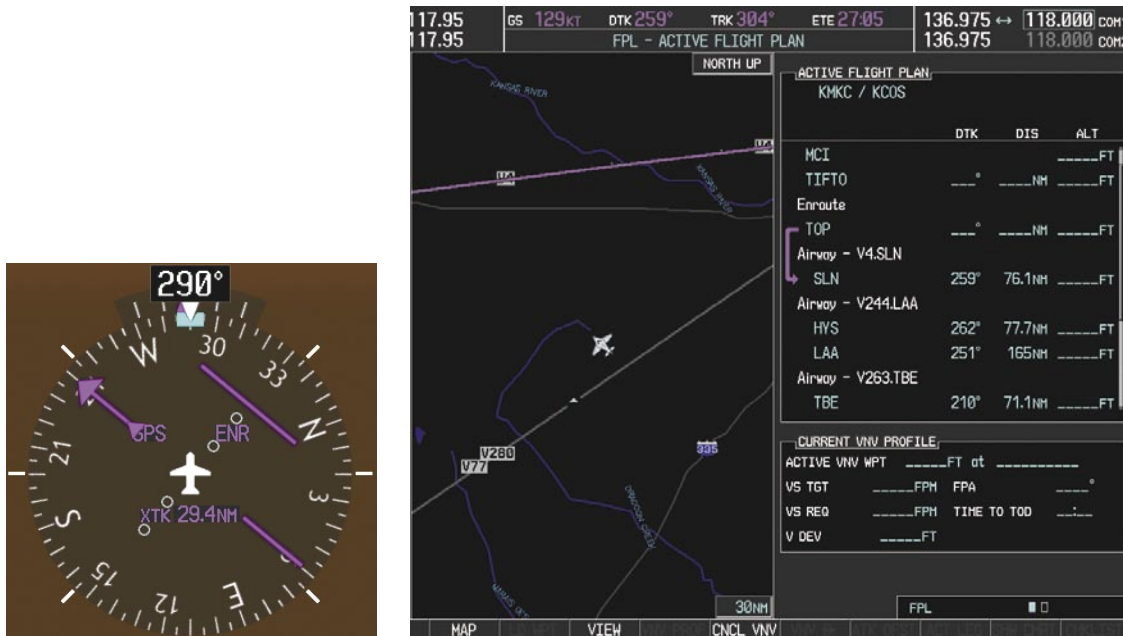

Figure 5-111 V4 Now Active Leg
- d) Verify the displayed leg is the desired leg and press the **ENT** Key. Note in Figure 5-111, the magenta arrow in the flight plan window and magenta line on the map indicating V4 is now the active flight plan leg. Note the phase of flight remained in Terminal (TERM) mode up to this point because a departure leg was active. Since a leg after the departure is now active, the current CDI flight phase is ENR (Enroute) and CDI scaling has changed to 2.0 nm.